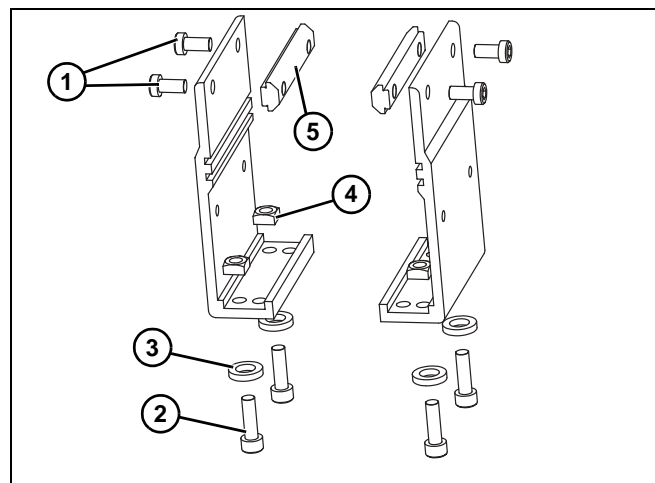
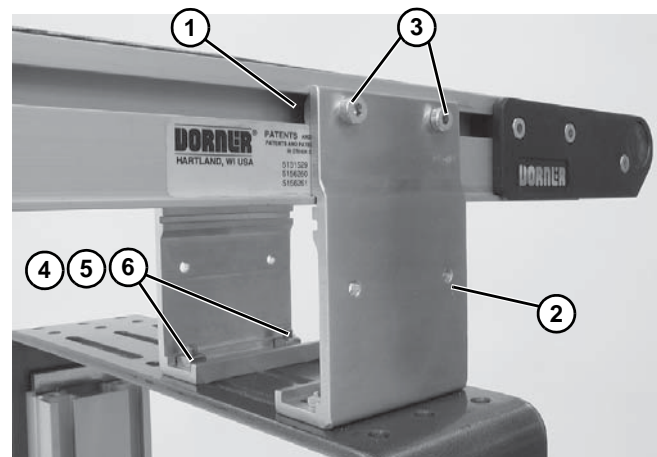

Figure 5
Figure 6
1. Locate brackets. Exploded view shown in Figure 5.
2. Remove screws (Figure 5, item 1 & 2), washers (Figure 5, item 3), nuts (Figure 5, item 4) and T-bars (Figure 5, item 5) from brackets.
3. Insert T-bars (Figure 5, item 5) into conveyor side slots (Figure 6, item 1). Fasten brackets (Figure 6, item 2) to conveyor with mounting screws (Figure 6, item 3).
4. Fasten brackets to support stand with mounting screws (**Figure 6, item 4**), washers (**Figure 6, item 5**) and nuts (**Figure 6, item 6**).
5. Tighten screws (**Figure 6, item 3 & 4**) to 60 in-lb (7 Nm).